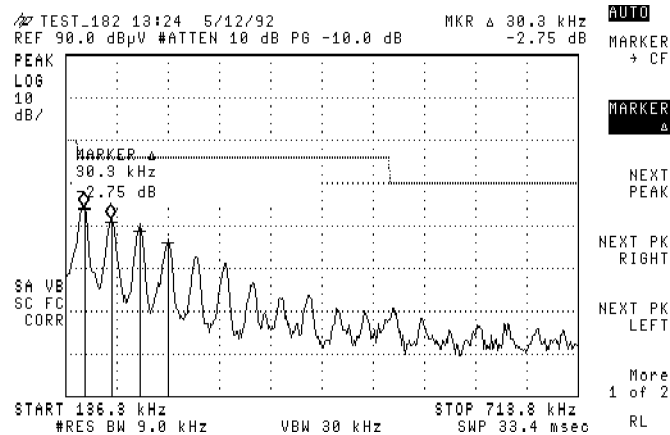

Figure 3-26. Finding the Harmonic Interval
13. Press **NEXT RIGHT** to place the marker on the next harmonic to the right. Note the interval. See Figure 3-26.